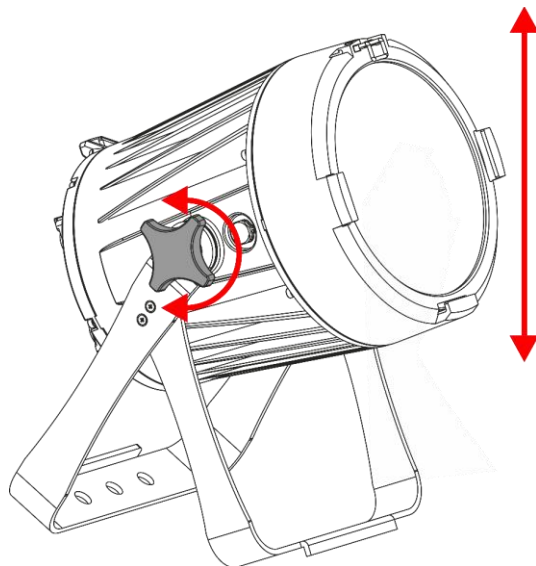

Fig. 10
- 01) Turn the **adjustment screws (06)** counterclockwise to release them.
- 02) Tilt the device at the desired angle (see Fig. 10).
- 03) Turn the **adjustment screws (06)** clockwise to tighten them. Make sure that the device cannot move freely after the **adjustment screws (06)** are tightened.